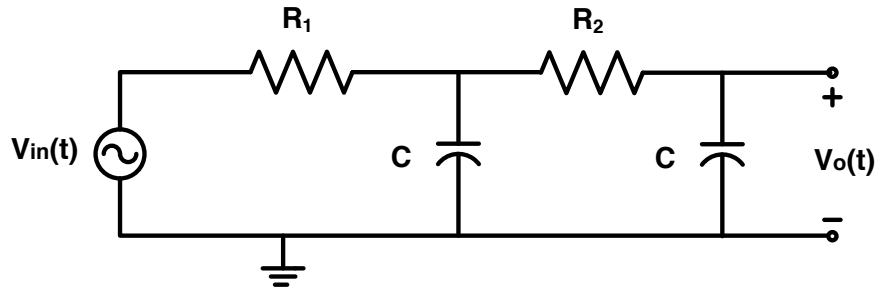

Fig. 3. Second order low pass filter
5. For the circuit shown in Fig. 3, derive the transfer function for  $v_o/v_{in}$  in terms of  $R_i$  and  $C_i$ , and find the expressions for the magnitude and phase responses. Express the transfer function in the form
6. Design (find component values) a passive second-order low pass filter such as the one shown in Fig. 3. Determine  $R_1$  and  $R_2$  for  $C = 47$  nF. The first pole is at 1 kHz and the second pole is at 4 kHz. You must use a circuit simulator to verify your design.
1. Build the circuit shown in Fig. 3 with  $R$  and  $C$  you found in the pre lab. Apply a 6 Vpp sinusoid from the function generator to the input.